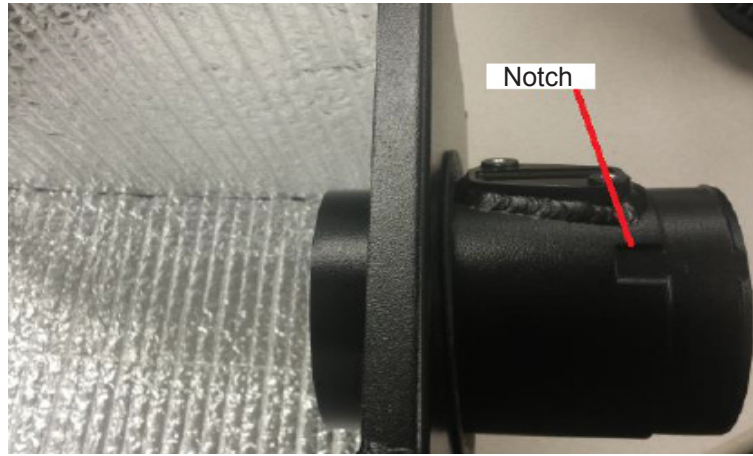

Figure 5
5. Install MAF tube into the hole in the box from the outside. Install tube so that notch is pointing up as shown in Figure 5..